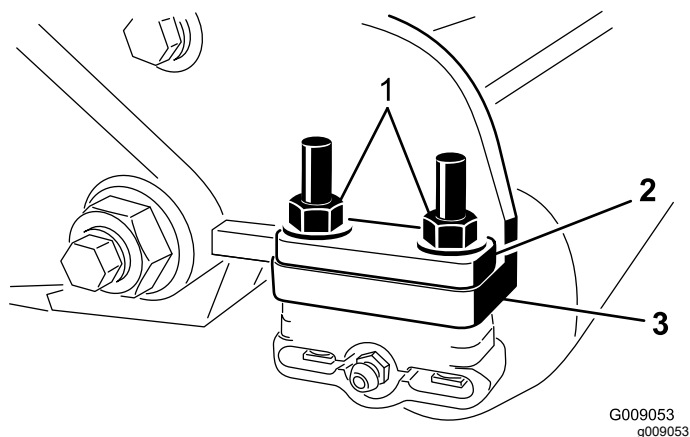

Figure 7
7. Remove the 2 flange locknuts securing each roller bracket to the side plates (Figure 7).